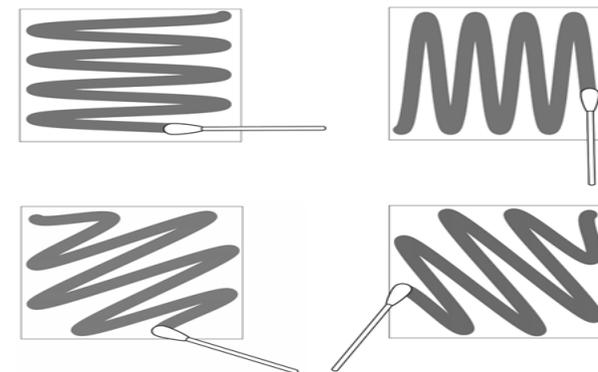

Figure 1.
- Gather the sample with the swab by using a crosshatch technique (**Figure 1.**). Move the swab horizontally, vertically, diagonally while rotating the tip. Repeat this starting from a different angle each time.